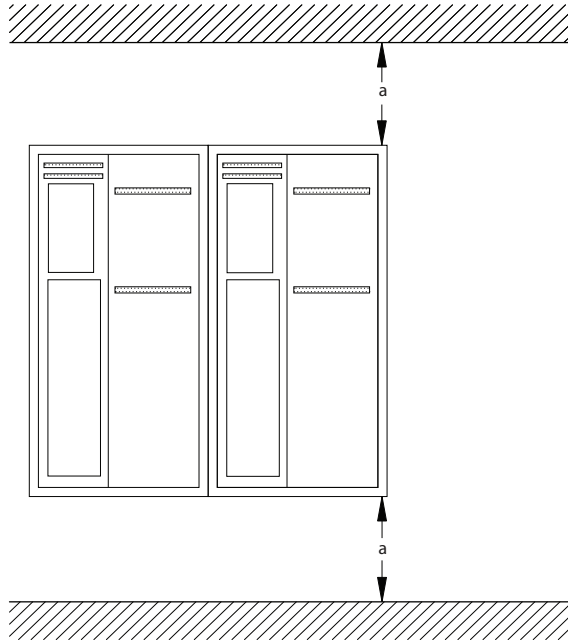

Fig. 5 — Top and Bottom Cooling Clearance
- Ensure that top and bottom clearance for air cooling is provided. See Fig. 5 for clearance requirements.